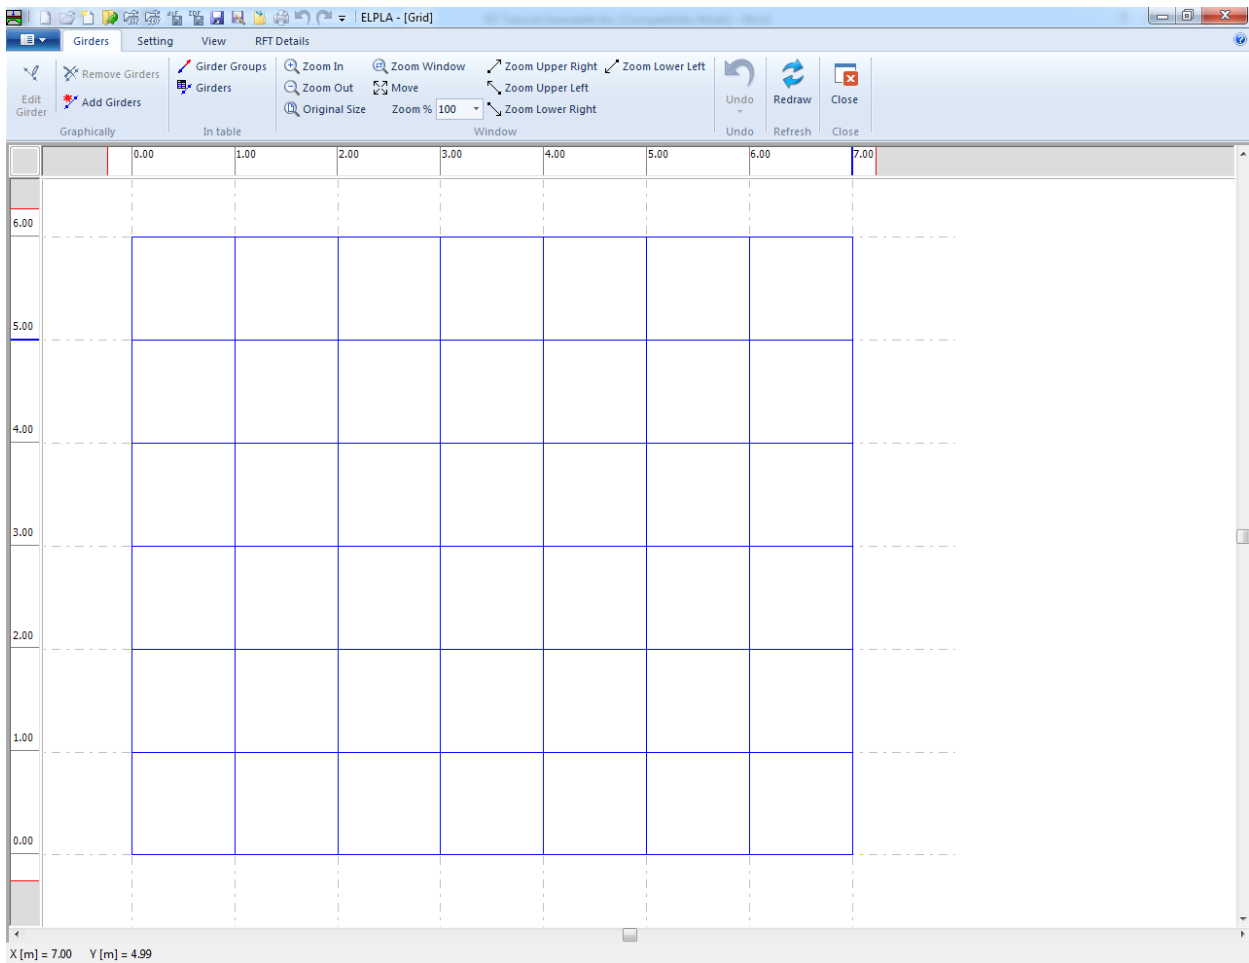
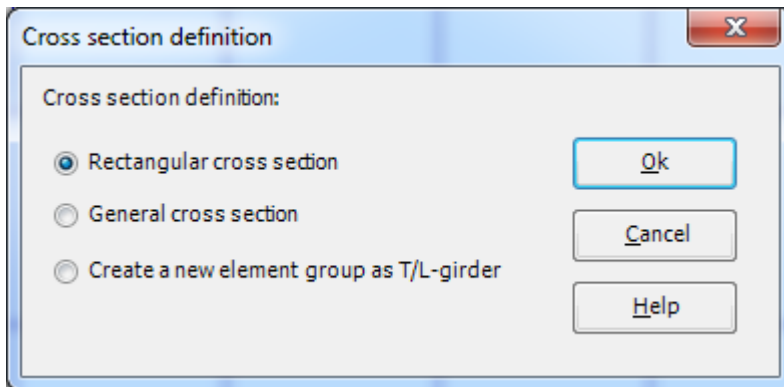

Figure 4.11 "Girders" Window
Figure 4.12 "Cross section definition" option box
To define the girders, choose "Girders" command from "Data" Tab. The following Window in Figure 4.11 appears.
- Choose "Girder Groups" command from "In table" menu in Figure 4.11. The following option box in Figure 4.12 appears
- Choose "Add Girders" command from the "Girders" Tab in Figure 4.11. When "Add Girders" command is chosen, the cursor will change from an arrow to a cross hair